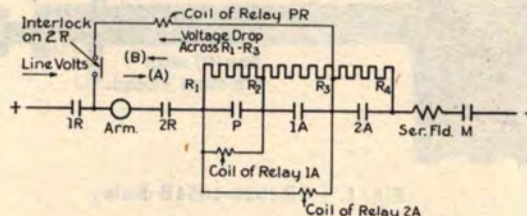
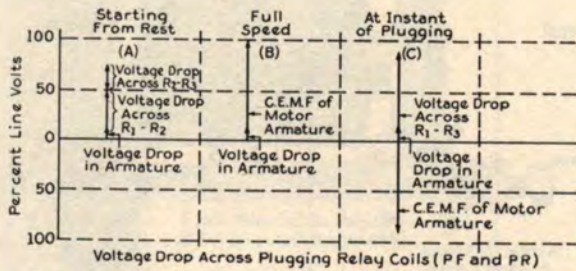

Fig. 5. Elementary Connection Diagram
Fig. 6. Vector Diagrams
short-circuited by contactor (P). This is also shown by the vector diagrams (A) and (B) in Fig. 6.
If the motor is now accelerated to full speed in the "Forward" direction and then plugged, the condition existing immediately after the "Reverse" contactors (1R-2R) close is shown, Fig. 5.
(A) in Fig. 5. This is also shown in the vector diagram (C) in Fig. 6.
During the time of deceleration, the motor acts as a generator, and the C.E.M.F. is opposite in effect to the voltage drop across (R1-R2). The C.E.M.F. falls off to zero as the motor comes to rest, while the voltage across (R1-R2) decreases from the maximum shown at instant of plugging to a similar value to that at starting from rest (vector diagram (A), Fig. 6). The relay (PR) will therefore pick up as the motor comes to rest (approximately) and will then energize the plugging contactor (P), and the acceleration is the same as previously described.